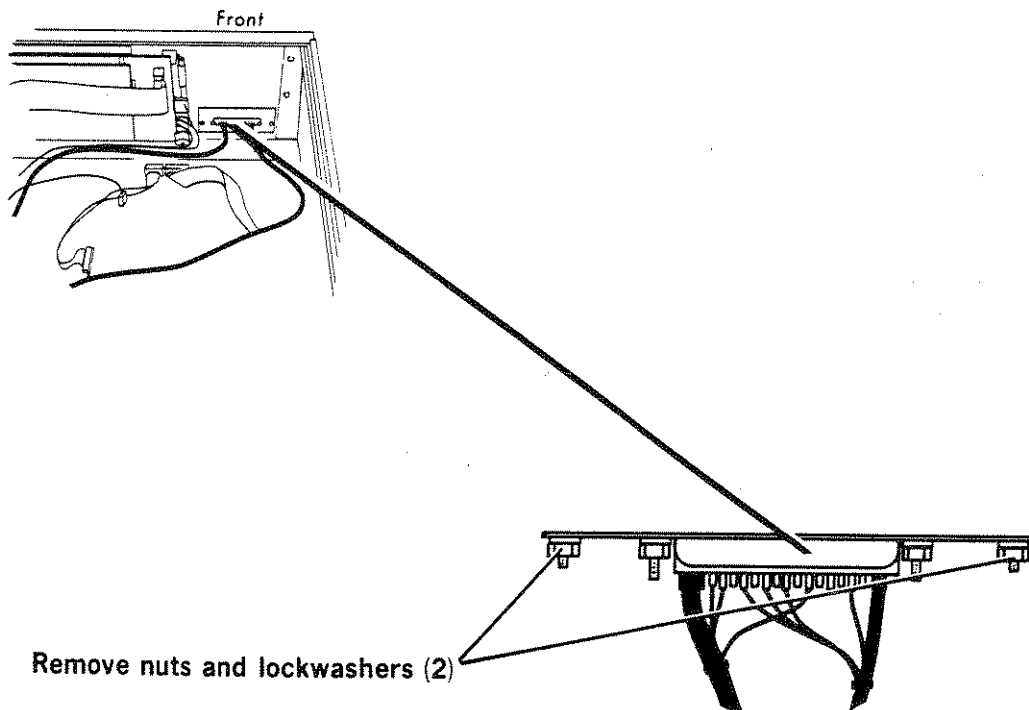

Figure 7-14. Unbolting the Test Connector
- STEP 2. Remove the two nuts and lockwashers that secure the Test connector and plate in place. Refer to Figure 7-14.